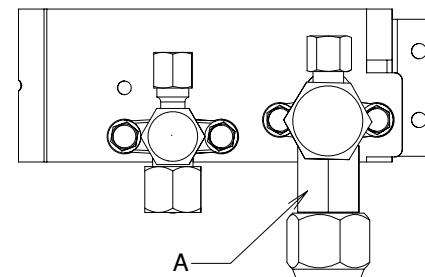

Fig. 7-7
- When removing or tightening the wide tube flare nut, use 2 monkey wrenches together: one at the wide tube flare nut, and one at part A. (Fig. 7-7)